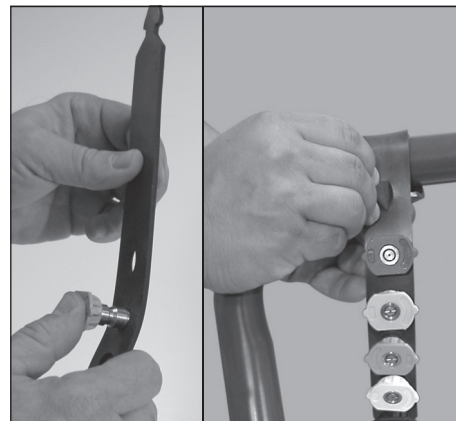

Figure 13 - Insert spray tips into rubber tip holder
- Install quick connect tips to tip holder and secure to the pressure washer handle (see Figure 13).